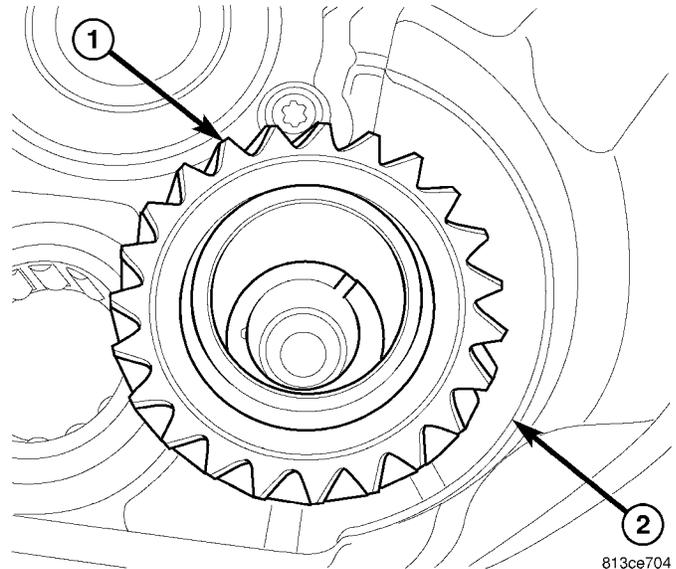

Fig. 85 REVERSE IDLER GEAR
(4) Install reverse idler gear (1) (Fig. 85) into housing (2).